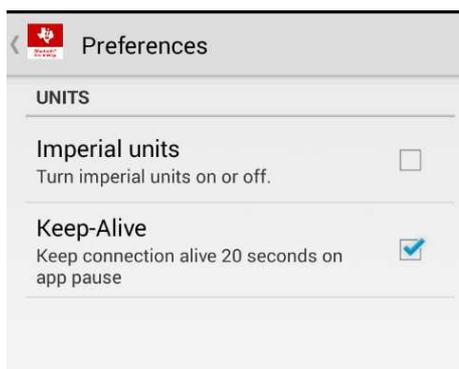

Figure 10: Android application preferences interface
- 5) Optional: the unit of temperature can be changed by clicking on settings (in the app) and checking imperial units as described in figure 10: